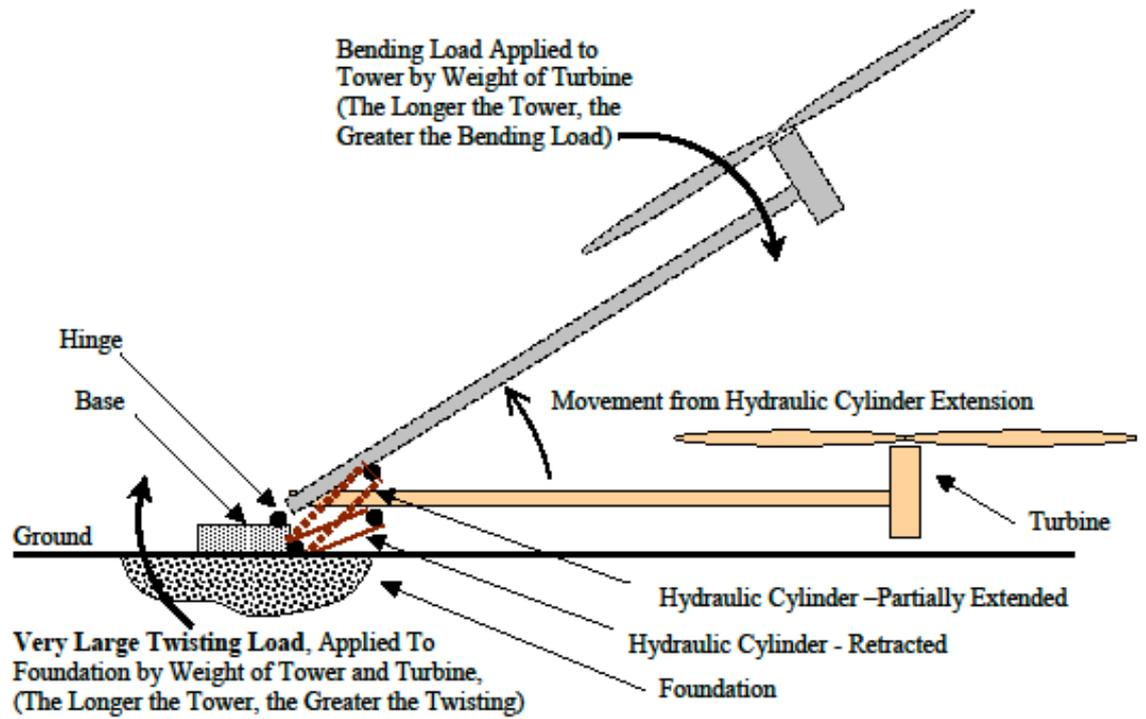

Figure 1. – A Typical Hydraulically-Actuated Tilt-Up Tower
- c) Another way that requires only a very small crane is to initially install the tower on a hinged base secured to the foundation prior to the installation of the tower. When the tower is installed on a hinged base it can be collapsed as previously explained, and then either a gin pole or hydraulic cylinders can be utilized to let the tower slowly tilt down until the turbine is at ground level (See Figures 1 and 2).
- a) A conventional hydraulically-actuated tilt-up tower typically has a hinged joint at the bottom end that makes it possible for the force of one or more hydraulic cylinders to rotate the tower from an initial horizontal position upward until it is in its final vertical position. As shown in Figure 1, the movement of the tower is much like that of the hour hand of a clock moving backward from the 3 O'clock to 12 O'clock positions. When the tower is just starting to rotate upward a very big twisting load is being applied to the foundation that is similar to the twisting load applied to the roots of a tree in a strong wind. This is because the tower is effectively a very long lever sticking out from the foundation, and the foundation has to resist not only the twisting load from the tower itself, but also the very large twisting load resulting from the weight of the turbine and blades pushing down way out at the far end. Hydraulic tilt-up towers thus require a much bigger foundation than those that telescope and can be collapsed before being tipped up. The length of the tower when it is being tipped up determines how much of a twisting load is applied to the foundation and the bending load applied to the body of the tower. Telescoping towers can be reduced to 1/3 of their full length, which also reduces these two loads to 1/3 of what they would otherwise be. Consequently, when they are used in hydraulic tilt-up applications, telescoping towers require much smaller foundations and do not have to have as strong a body as conventional monopole towers. This represents a very significant saving.